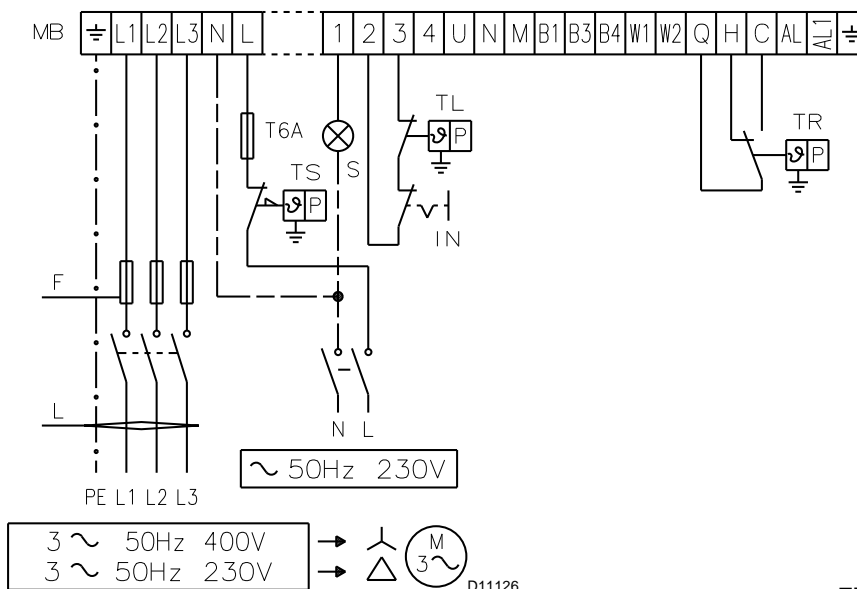

Fig. 4
- (1) When the burner does not fire or comes to a halt following a fault, the symbol which appears on control box 23)(Fig. 4 at page 12) indicates the type of problem.
- (2) The fuse is located in the rear part of the control box 23)(Fig. 4 at page 12). A pull-out fuse is also available as a spare part which can be fitted after breaking the tang on the panel which holds it in place.